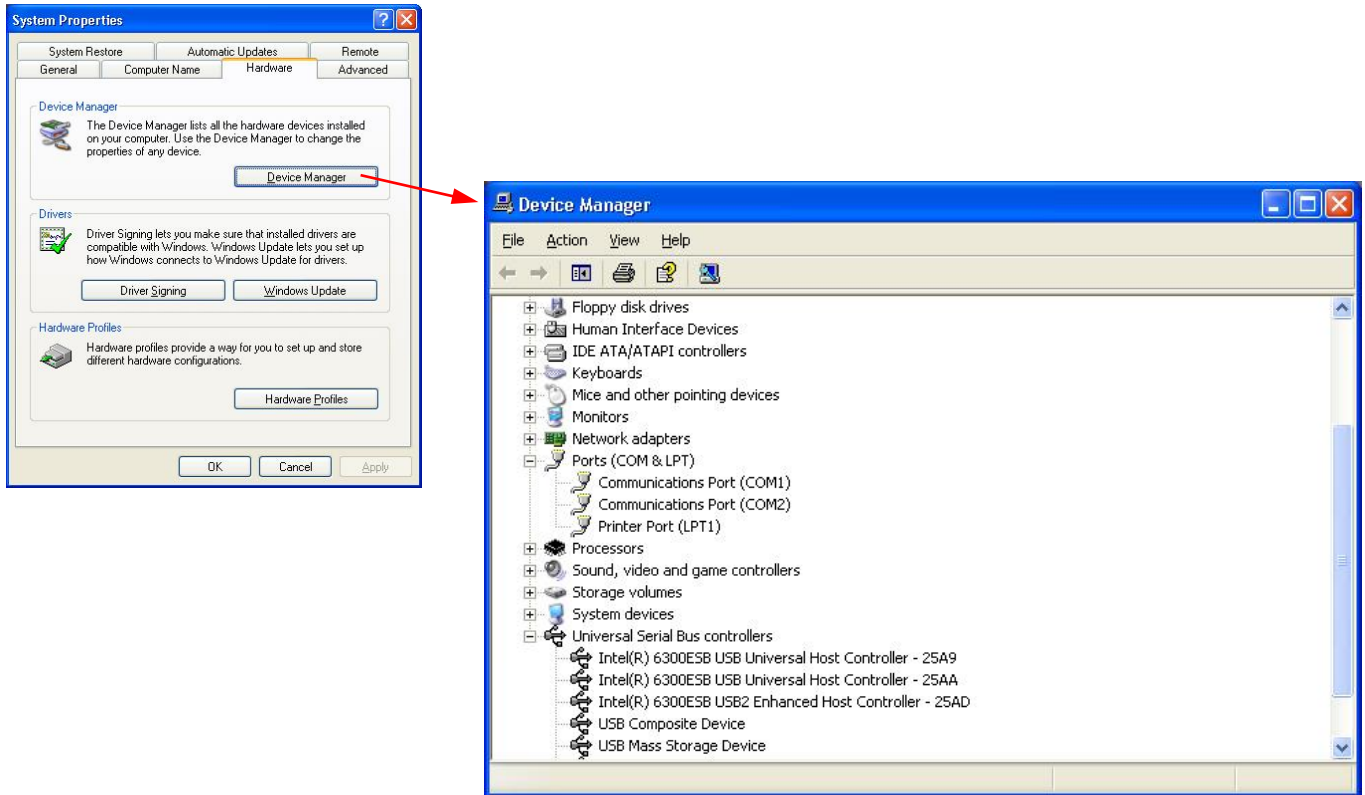

Figure 7-3 Example Device Manager Screens
- Identify the computer port that has been added to the PC by using the “Properties” of My Computer and examining the COM ports. USB ports are generally added to the bottom of the list and named USB COM port ‘x’. Refer to Figure 7-3 for screen examples (Windows XP).